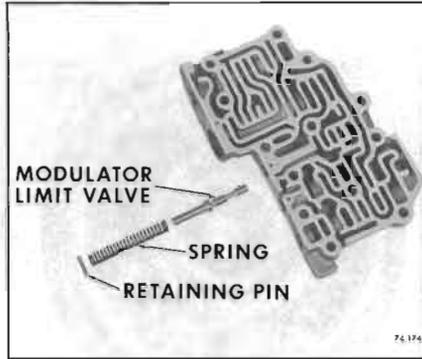

Figure 74-174
2. Install modulator limit valve, and spring into bore of valve body. With aid of Tool J-21547-1 compress spring and install retaining pin. See Figure 74-174.